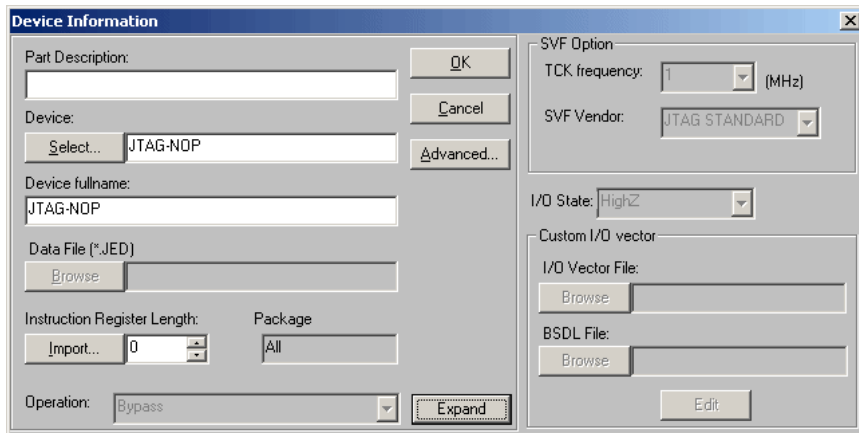

Figure 2-4. Device Information Dialog
2. Choose **Edit** ⇒ **Add Device** to open the Device Information dialog (Figure 2-4).